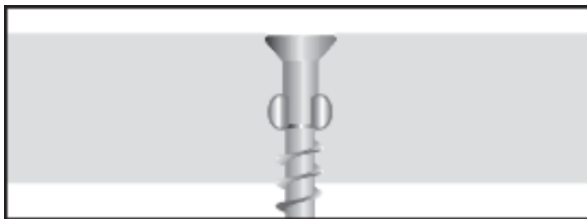

FIGURE 1
3.3.1 General: ResinDek® shall be installed with the label side of the panel facing upward. The panels shall be installed on corrugated metal deck by using a screw gun with operable clutch. The screw heads shall be driven to just below the panel surface (See Figure 1).